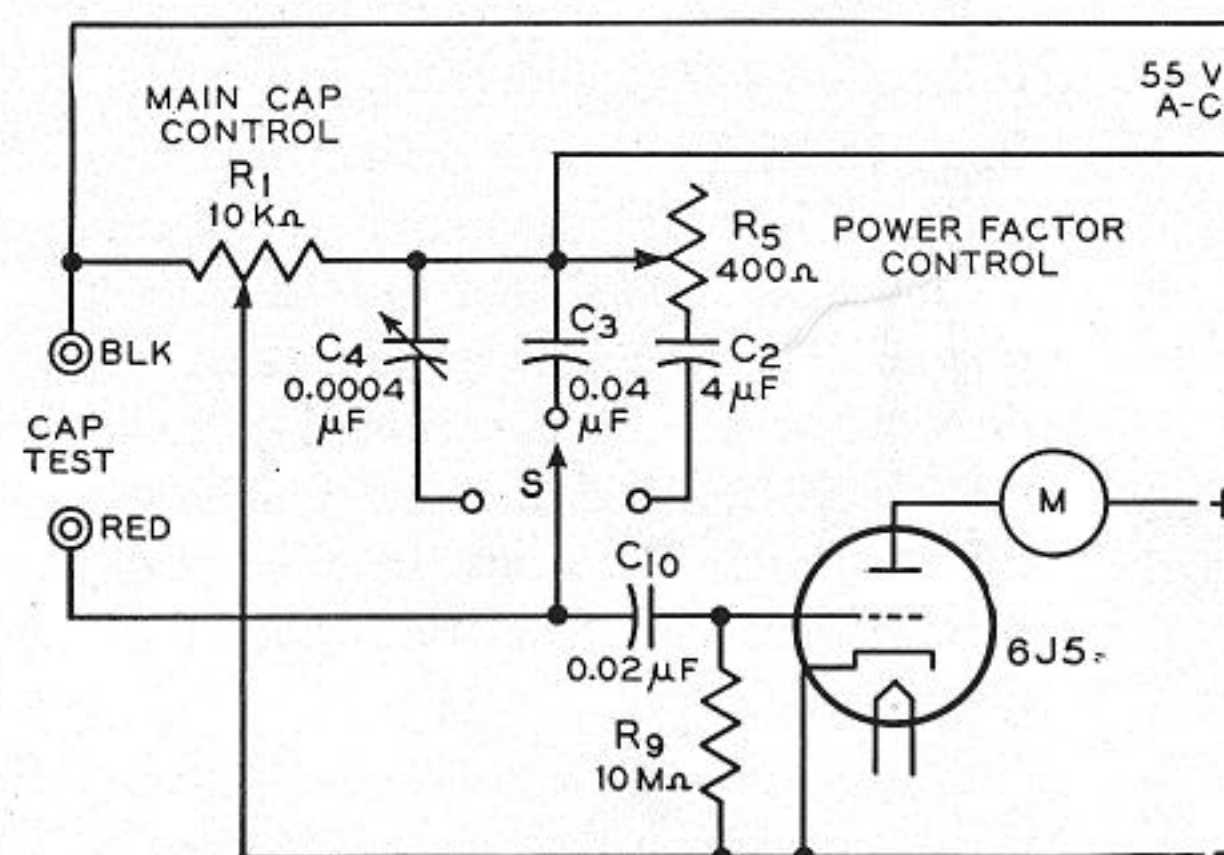
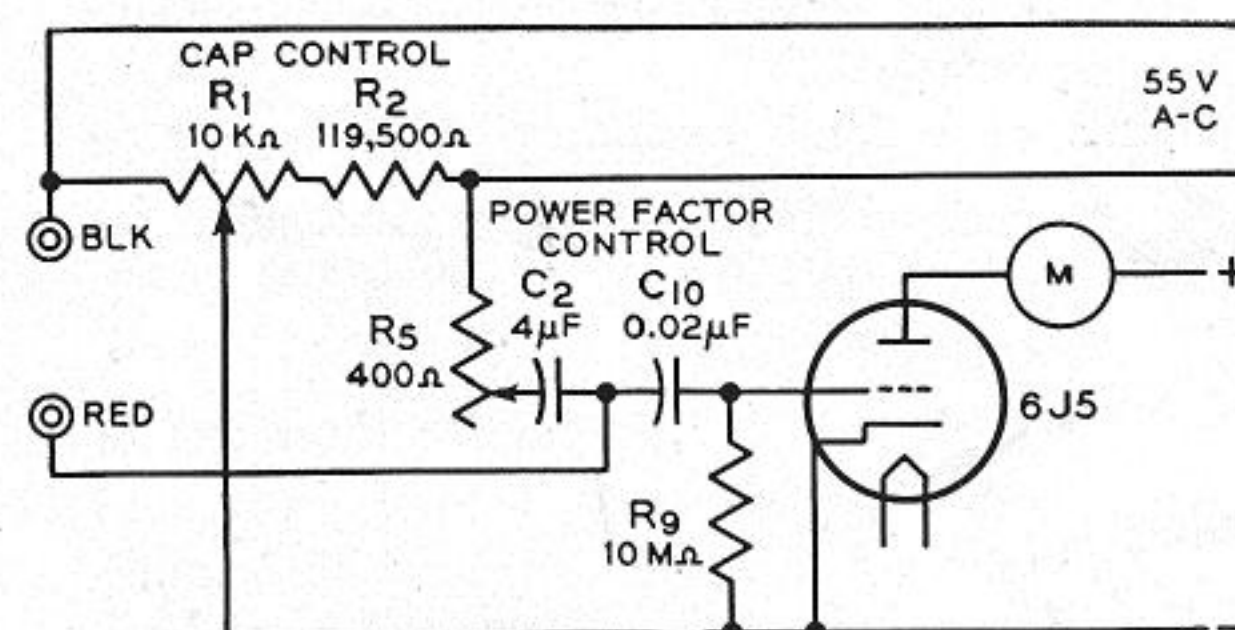
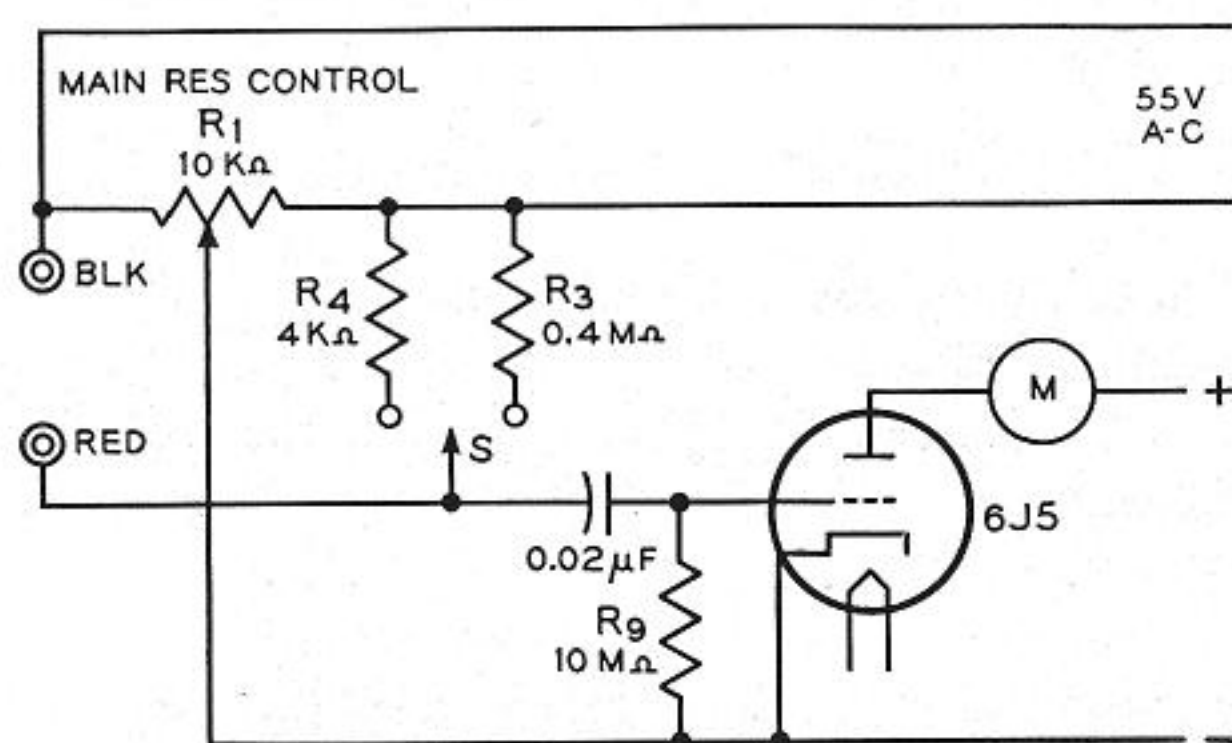

FIG. 2—LOW CAPACITANCE BRIDGE CIRCUIT
FIG. 3—HIGH CAPACITANCE BRIDGE CIRCUIT
FIG. 6—RESISTANCE TEST CIRCUIT
3.1.1 Capacitance measurements from 10 mmf to 2000 mf are made on a 4-range line-frequency capacitance bridge. Figure 2 shows a simplified schematic diagram of the DeSauty bridge employed for the Cx.0001 and Cx.01 ranges and the Wien bridge used on the Cx1 range. It will be seen that the main dial potentiometer acts as the continuously adjustable ratio arm of the bridges. Consequently, a highly accurate linear-taper wire-wound variable resistor must be used for the main bridge element in order to assure accurate matching of the calibrated scale. The standard capacitor for the CX.0001 range is a mica trimmer, which is adjusted to take into account variations in wiring capacitance. A simple vacuum-tube voltmeter is used as the bridge null detector. Figure 3 shows the circuit variation to extend the range of the Wien Bridge of Figure 2. Here R1 and R2 together comprise the calibrated adjustable ratio arm of the bridge. R5 is the power-factor balance rheostat in both figures.
3.2.1 Theory of Operation. Resistance measurements are made on a conventional 2-range a-c Wheatstone bridge. A simplified schematic diagram is shown in Figure 6. It will be seen at a glance that it is quite similar to the DeSauty capacitance bridge arrangement of Figure 2.